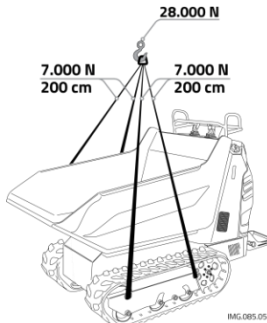

fig. 27 – Anchoring points to lift the machine
- Stick firmly to the floor of the means of transport through the chain approved Cormidi (Cod. C0260.00.03) purchased from authorized dealers Cormidi), connecting more with the points set as in Figure 27.